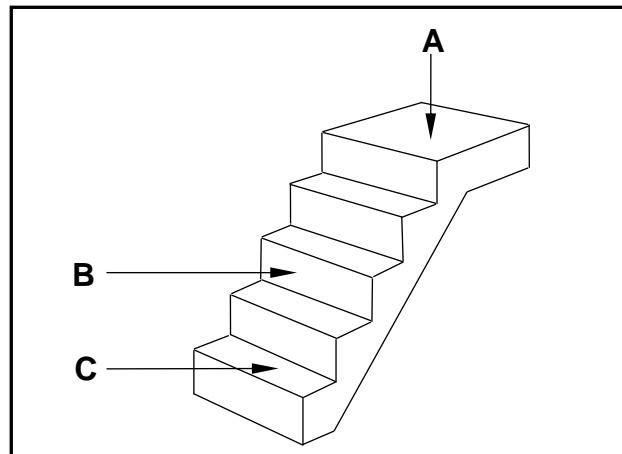

FIGURE 2.8
- 2.8 FIGURE 2.8 below illustrates a flight of concrete stairs. Study the drawing and name parts **A** to **C** in the ANSWER BOOK.